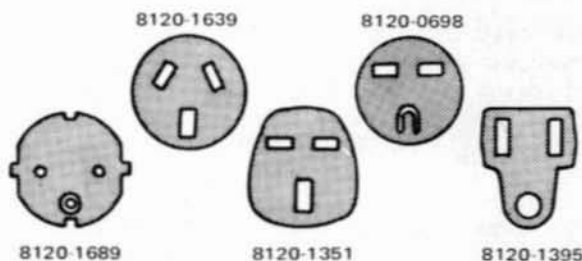

Figure 2-1. Power Receptacles
**2-7. POWER REQUIREMENTS.** The power cord required depends on, (1) the ac input voltage, and (2) the country in which the instrument is to be used. Figure 2-1 illustrates the standard power receptacle (wall outlet) configurations that are used throughout the United States and in other countries. The HP part number shown directly above each receptacle drawing is the part number for a power cord equipped with the appropriate mating plug for that receptacle. If the appropriate power cord is not included with the instrument, notify the nearest HP Sales/Service Office and a replacement cord will be provided.